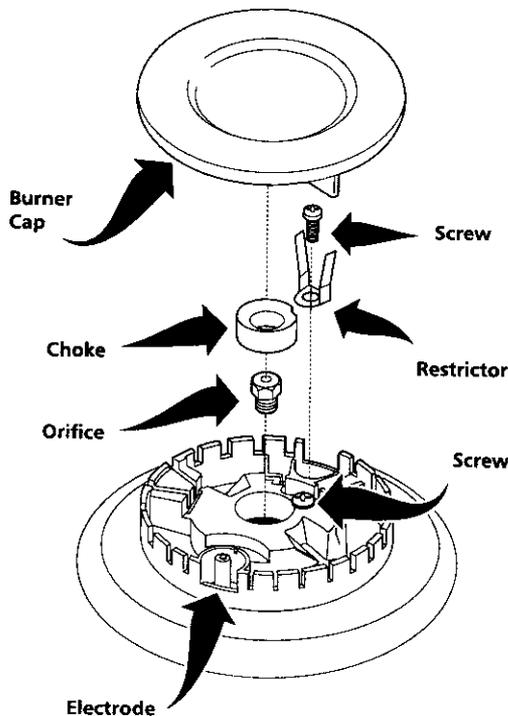

FIGURE 4
2. Convert Surface Burners for use with LP/Propane Gas (see Figure 4)